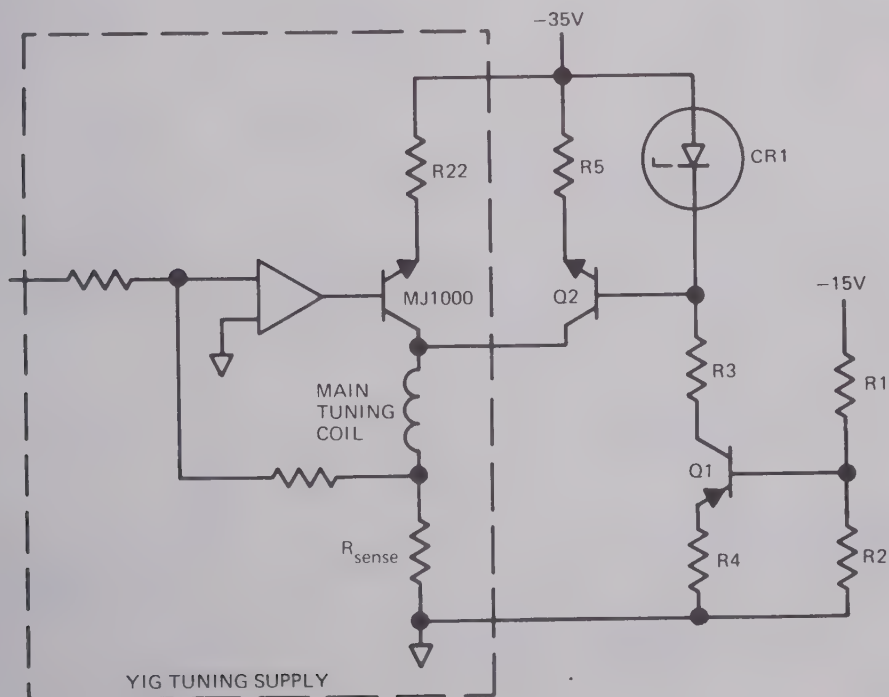

Fig. 16 Heat exchanger circuit
55. In the higher frequency YIG tuned r.f. sources, the tuning current (and consequently the power required for tuning this source) is quite high (i.e., 30 - 50 W). To avoid dissipating too much power in one series pass transistor and causing intensive heat dissipation in one location, some of the tuning current is supplied by Q2 as shown in Fig. 16. Transistor Q2 is the heat exchange sink and is located as far away from the series pass transistor as is practical. In operation most of the current required at the low end of the tuning range is supplied by Q2, and as more current is required with increasing r.f. frequency, it is furnished via the series pass transistor.